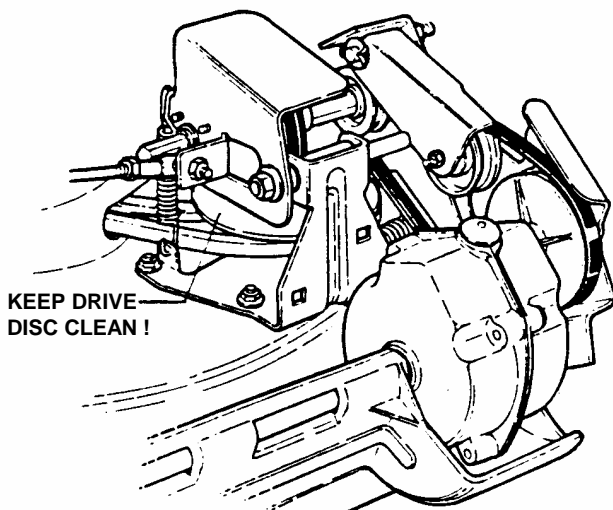

FIGURE 3.5
**NOTE:** Snapper "00" Grease (Part No. 2-9443) is available at your SNAPPER dealer. Do not spill grease or oil on surface of drive disc. See Figure 3.5.